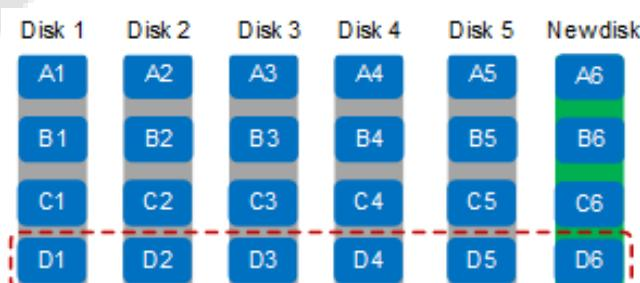

Figure 6 Recording storage
- New recording data is stored in each hard disk in sequence, as shown in Figure 6.